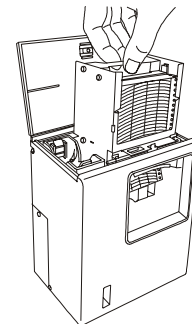

Fig. 2
2. As shown in the Fig. 2, remove six fixing screws on the control box and remove the control box cover.
2. Pull the cartridge up after opening the top lid. The lid can be opened by turning the knob counterclockwise. See Fig. 2.
3. Press both sides of the pen arm as indicated by the arrows to open the head clamp at A and B. (See to Fig. 2 illustration 1)
4. Position the ink pen so that the guide pins fit into the guide holes on the pen arm. (See to Fig. 2 illustration 2)
5. Press the two sides of the head clamp as indicated by the arrows to secure the ink pen. (See to Fig. 2 illustration 3) From the side view, the ink pen should fit perfectly on the arm. Confirm that the pen arm is attached to both sides of the ink pen.